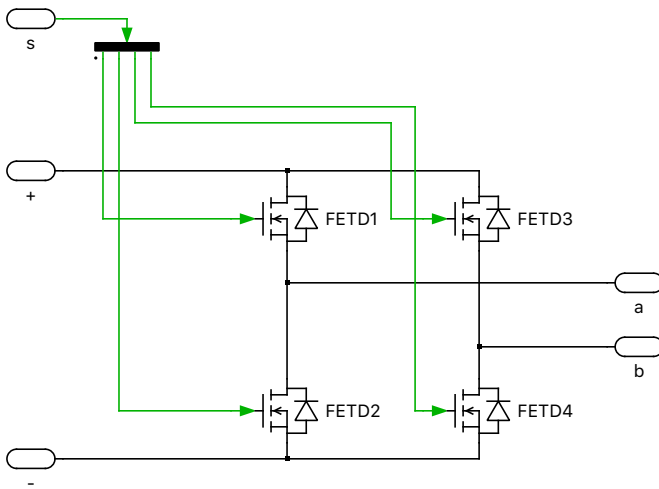

Figure 3: Single-phase full-bridge inverter subsystem
- 1 From the reference files, open the PLECS model `component_libraries_start.plecs`. The model contains the circuit shown in Fig. 3 within the subsystem labeled “Full-Bridge Inverter”.